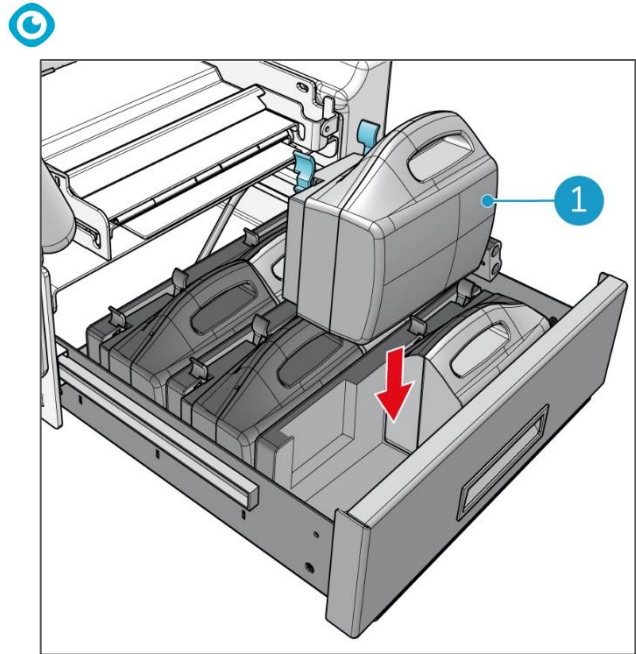

Figure 15
4. Place the batteries in the battery drawer. When they "click", they are locked into place (Figure 15, pos 1).